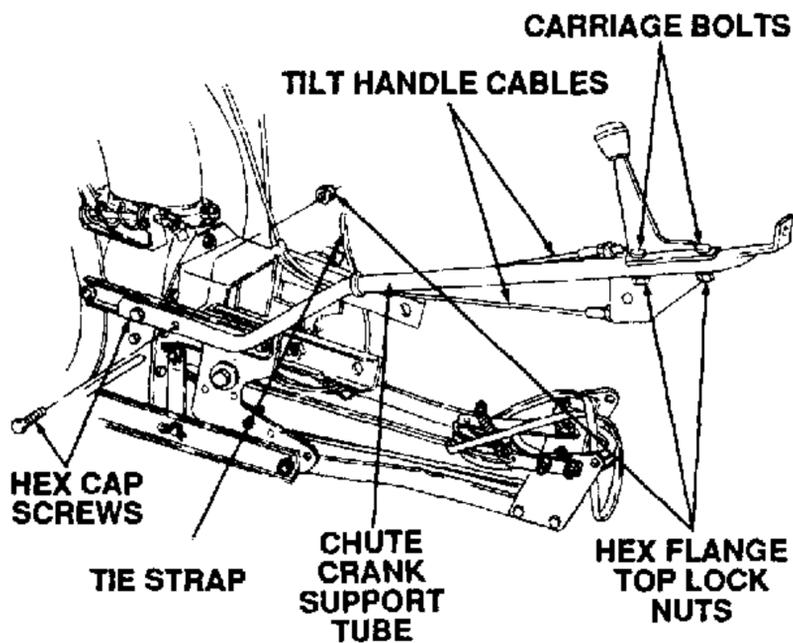

Figure 7-28. Installing Chute Crank Support Tube and Tilt Handle.
4. Install the chute crank support tube (2, Fig. 7-24) onto the frame of the snow thrower assembly (1) using the hex cap screws (12) and hex flange lock nuts (8). Refer to Figure 7-28.
5. Install the chute tilt handle assembly (9) on the support tube (2) with the carriage bolts (7) and hex flange top lock nuts (8). See Figure 7-28.
6. Secure the cables of the chute tilt handle assembly (9) to the support tube (2) using one tie strap (25) as shown in Figure 7-28. Cut off excess on end of tie strap.